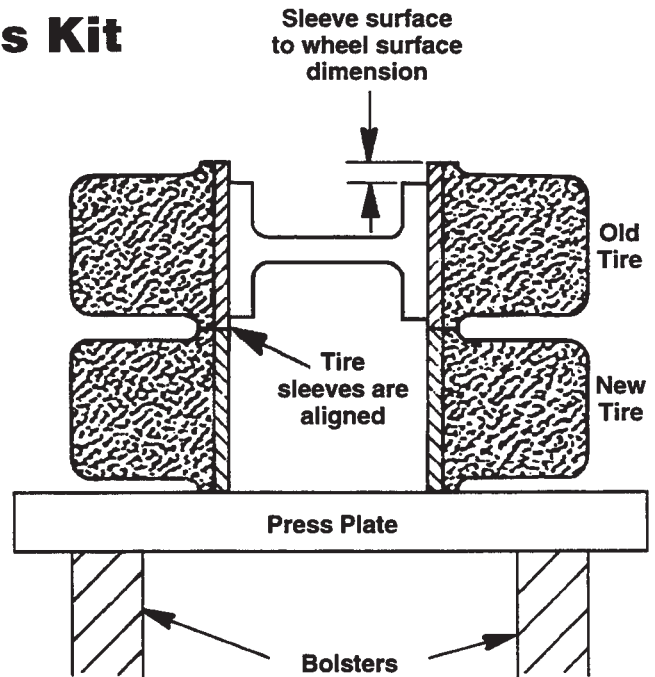

Figure 1
1. Measure the distance between the sleeve surface and the wheel surface on the old tire. See Figure 1. The new tire must match this dimension once the wheel has been installed.